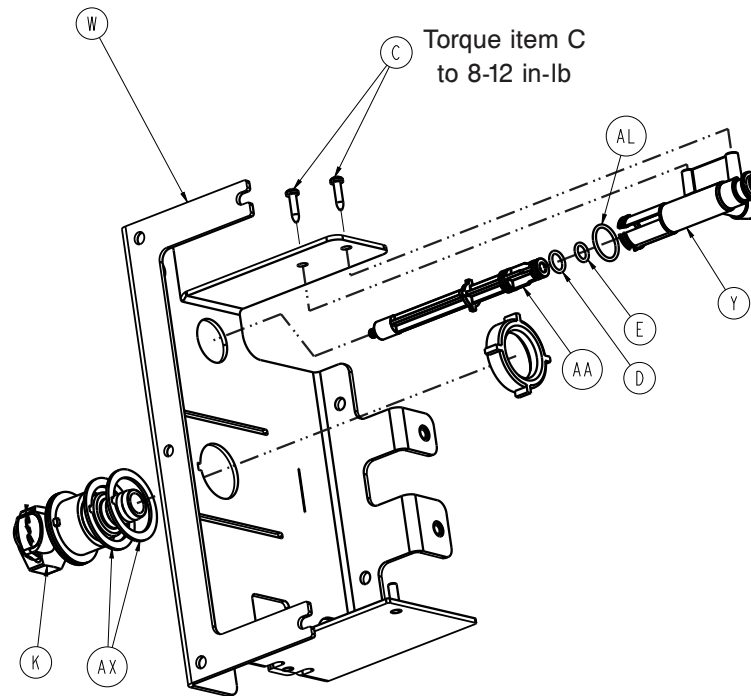

Figure 18: Drain valve screws
7. Pull up and rotate the fluid bracket to access drain valve screws (C) (Figure 18 on page 29).